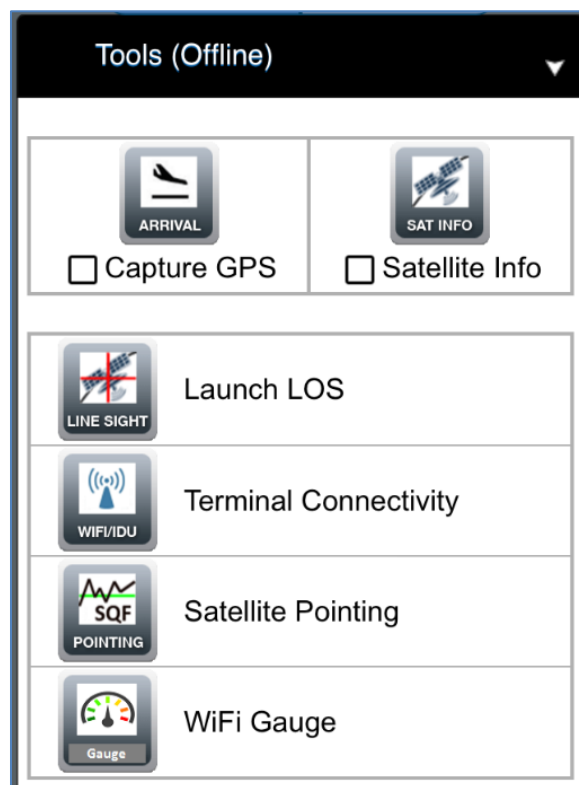

Figure 3: OASIS homepage – offline tools
- **Tools (Offline)** – *Commonly used during repair orders or when re-pointing.* Shows a selection of tools you can use offline without affecting your work order. These include checking satellite information, capturing GPS coordinates, checking line of sight (LOS), testing modem connectivity, pointing an antenna, and checking a Wi-Fi signal, as seen in Figure 3.